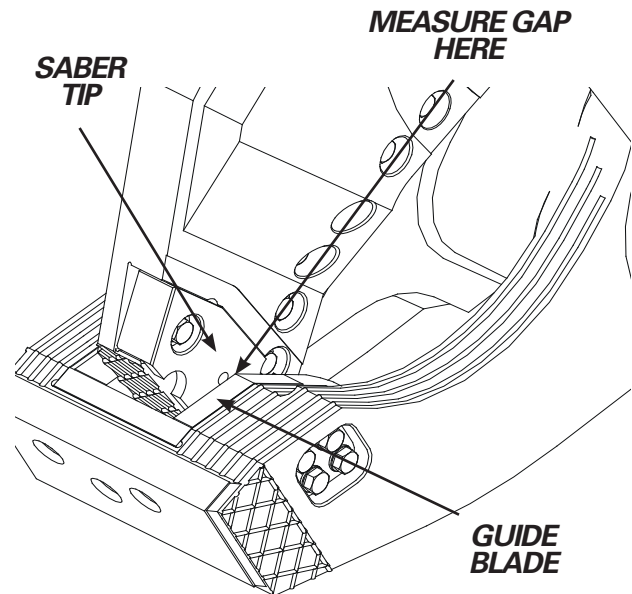

FIGURE 5-4
1. Close the shear until the Saber Tip on the upper shear begins to bypass the guide blade (see figure 5-4). Use a feeler gauge to check the gap and record it. Close the shear in steps and check the gap at different spots along the Saber Tip surface. Find the smallest gap along the Saber tip and mark it. The gap at the spot should not exceed 0.030" (0.76 mm). If the gap is more than this, it will be necessary to shim the guide blade.